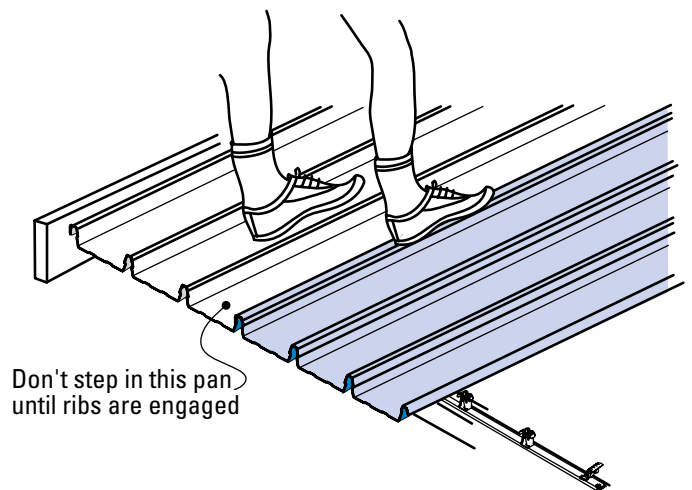

Figure 5
- 10 Engage the sheet with clips using vertical foot pressure on all the ribs over each clip. (Figure 5)
- 14 Fully engage the two sheets along the overlapping rib. You can do this by walking along the full length of the sheet with one foot in the centre pan of the previous sheet and the other foot applying vertical pressure to the top of the interlocking ribs at regular intervals. It is important that you don't walk in the unsupported pan beside the overlap. (Figure 5)